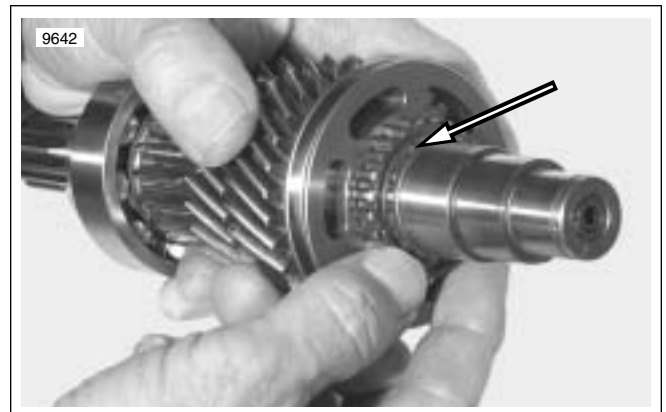

Figure 7-53. Half Moon Keepers
4. See Figure 7-53. Install half moon keepers.